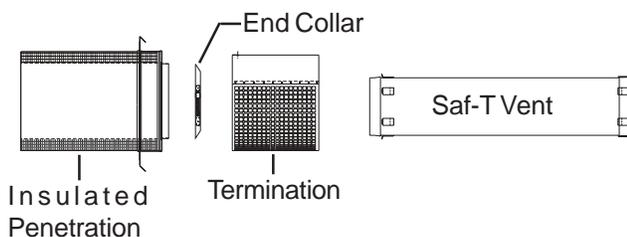

Fig. 14
1. The Wall Termination Assembly is packed with the screen cover and end collar (Fig. 14). Before beginning, remove this screen cover. Prepare an opening for the Wall Termination Assembly in the wall. See Table 3 for framing dimensions. The opening may be either round or square so long as allowance for proper clearance to combustible material is made. When passing through solid, noncombustible construction, clearances may be reduced if necessary. If there are not sufficient support members to secure the Wall Termination Assembly or if there is a semirigid foam insulation layer under the sheathing, the opening must be blocked out or framed to provide support.